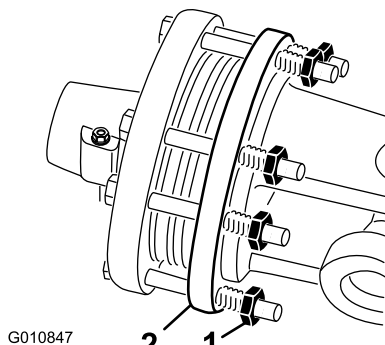

Figure 35
1. At the end of the season, back off each of the clutch nuts 2 turns (Figure 35).